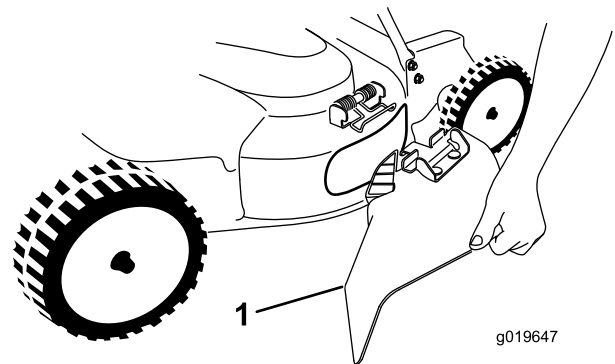

Figure 23
5. Install the side-discharge chute (Figure 23) by pulling up on the spring, placing the chute over the opening, and lowering the spring over the tabs on top of the discharge chute.